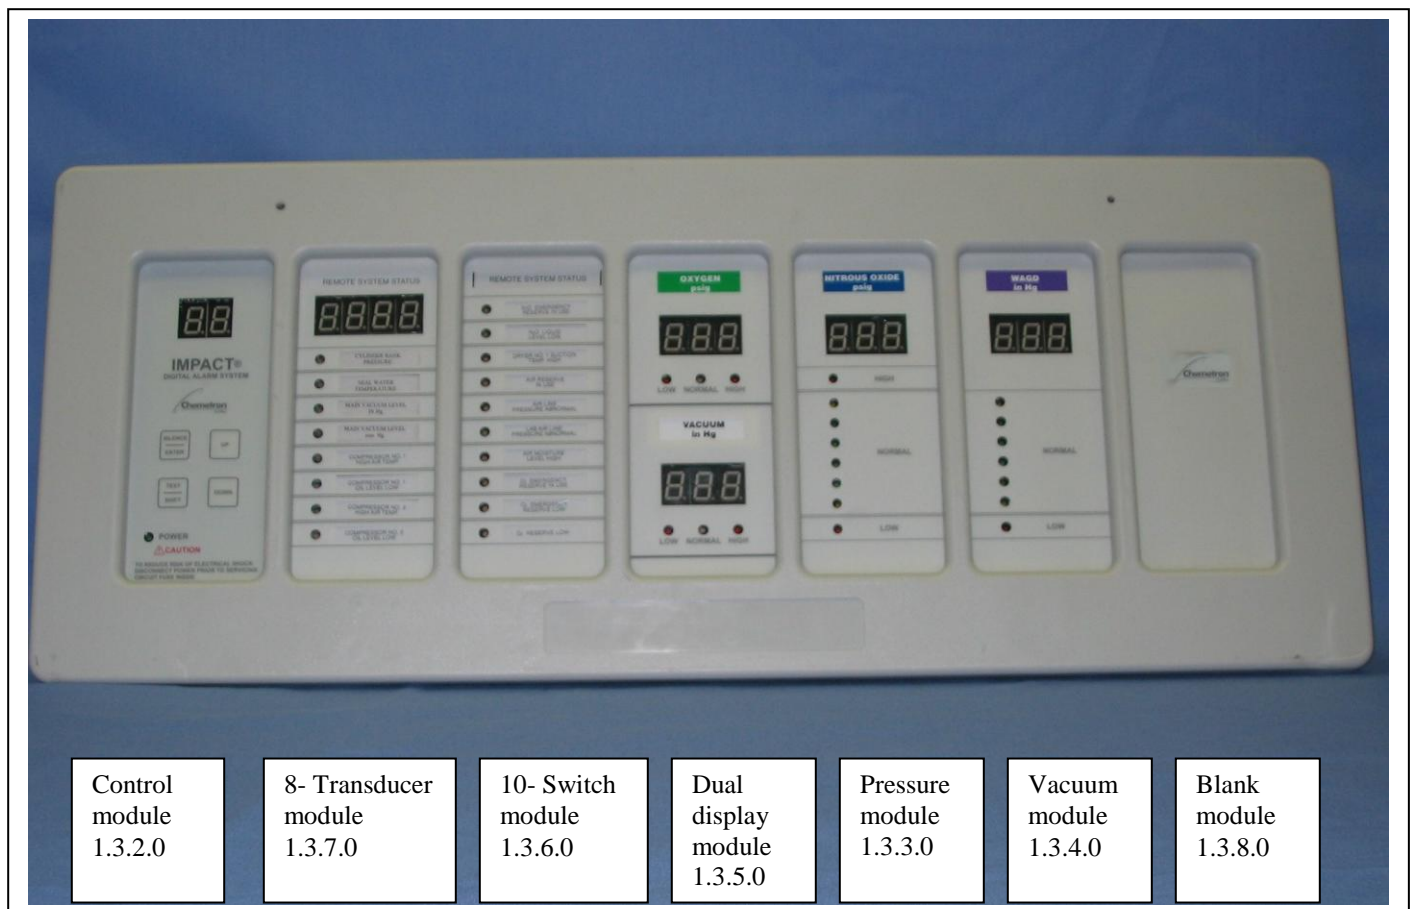

Figure 2- Alarm System modules
- 2.1.1 The Control Module (see Figure 2) is microprocessor based and controls the functions of the entire alarm system. When power is on, the light (LED) at the bottom of the module will be green. If an alarm condition is detected the audio alarm will sound. Pressing the ENTER/SILENCE button on the module will turn off the audio alarm.
- 2.2.1 The Pressure Module (see Figure 2) contains an LED display which provides continuous pressure readings for a single gas pressure line. During normal operation, four green colored LED's indicate a normal operating range. Once the pressure monitor deviates from the normal operating pressure to $\pm 17\%$ from the nominal, a yellow LED will light on either side of the green or normal LED's. Once the pressure deviates more than $\pm 20\%$ a red LED activates and an alarm will sound.
The Vacuum Module (see Figure 2) contains an LED display, which provides continuous vacuum readings for a single gas vacuum line. During normal operation, green colored LED's indicate a normal operating range. Once the vacuum value deviates below 14.0 in Hg for sensor type C or 355 mmHg for sensor type B, the yellow LED lights up. When the vacuum deviates below 12.0 in Hg for sensor type C or 304 mmHg for sensor type B, the red LED activates and an alarm will sound.
- 2.4.1 The Dual Display Module (see Figure 2) contains two LED displays and two sets of LED operating range indicators. The two displays can show Pressure, Vacuum or a combination of both. During normal operating range the center single LED will indicate a Normal situation with a green light. Once a Vacuum deviates below 14 in Hg or 335 mm Hg, the yellow LED lights up. When the vacuum deviates below 12 in-Hg or 304mm Hg, the red LED activates and an alarm will sound. When a pressure sensor is used the Display will indicate its continuous pressure reading for a single gas. During normal operating range the center single LED will indicate a Normal situation with a green light. Once the Pressure deviates 17% of nominal, the yellow LED lights up. When the Pressure deviates more than the 20% the appropriate (high or low) red LED activates and an alarm will sound.
- 2.5.1 The 10 Switch Signal Module (see Figure 2) is used exclusively to monitor normally closed remote switch signals. These discrete ON/OFF signals can represent conditions such as "Reserve in Use", "Liquid Level Low", High/Low Line Pressure or the status of another alarm panel. The 10 Switch Signal Module contains ten dual colored LED's located adjacent to the signal label being monitored. Each input has 3 modes of operation: 0 – Off, 1 – Normal, 2 – Indicator Only
2.6.1 The 8-Transducer Module (see Figure 2) is used exclusively to monitor up to 8, 4-20 mA sensors and indicate a numerical value on a LED Display. The 8-Transducer Module contains 8 dual colored LED's located adjacent to the signal being monitored. During normal operation, each LED is green. The 4-digit display will show each sensor output in sequence, flashing the LED next to the sensor display. The LED's will turn red should one or more of the eight-signals switch from normal to a fault condition.